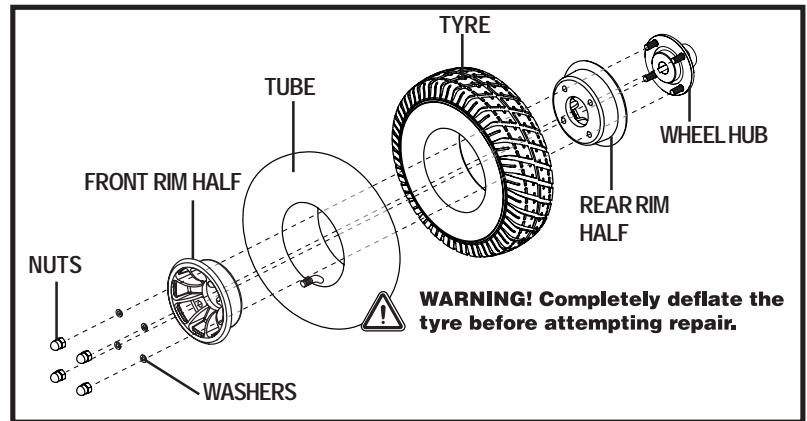

Figure 27. Jazzy 1107 Drive Wheel Disassembled
6. Remove the nuts and washers from the wheel hub and separate the front and rear rim. See figure 27.